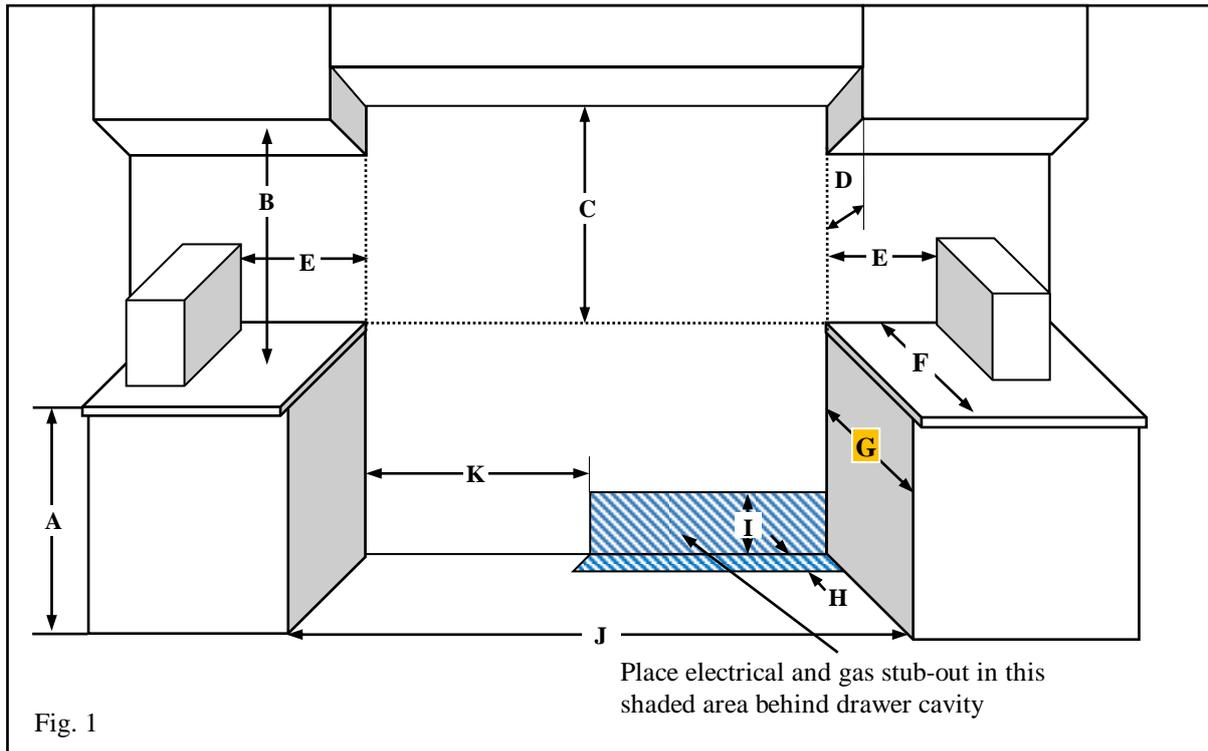

Fig. 1
- The range is a free standing unit. If the unit is to be placed next to cabinets, the clearances shown in Figure 1 & 2, are required.